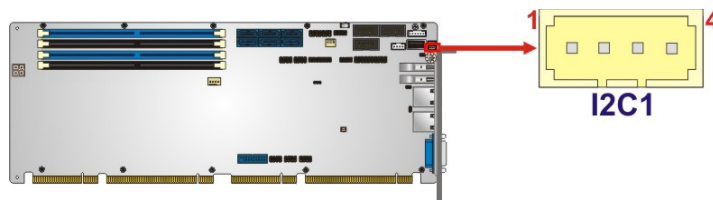

Figure 3-12: I²C Connector Location
- CN Location:** See **Figure 3-12**